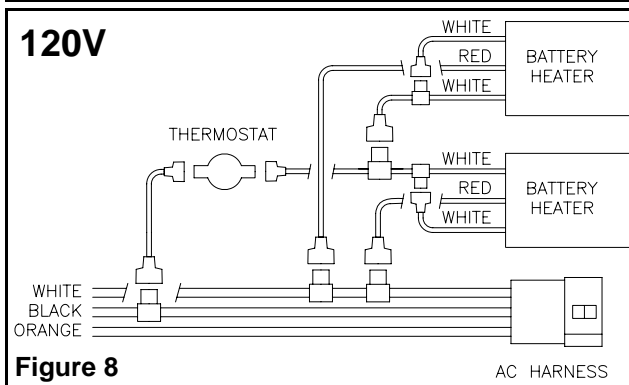
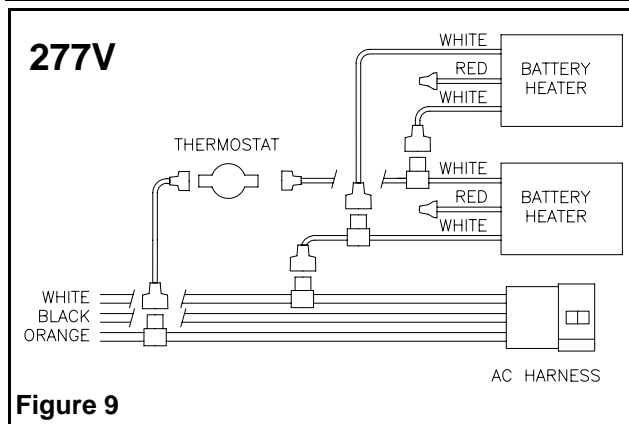

Figure 8
Figure 9
- b. Refer to figure 8 for 120VAC input voltage and to figure 9 for 277VAC. Use wire taps provided with the hardware kit to connect battery heater. Unused wire must be insulated to prevent shorting.